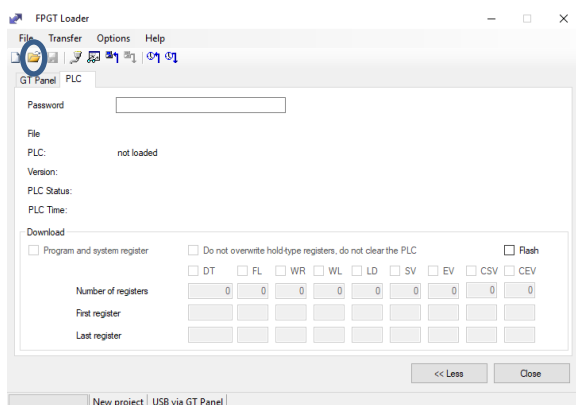
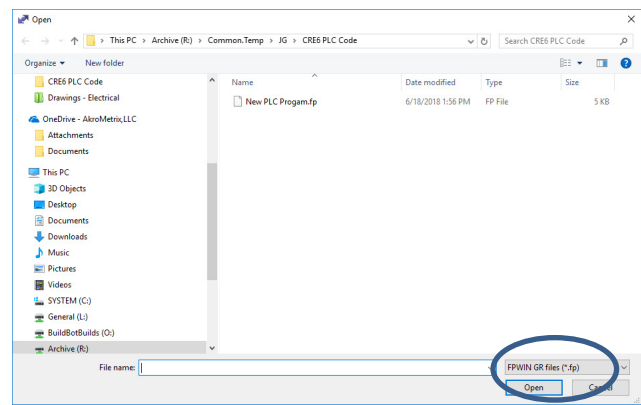

Figure 2
Figure 3
- 3) Click on the communication setting icon . (Figure 2)
- 5) Click the PLC tab. (Figure 2)
- 6) Click the **Browse** button  (Figure 2) and change the file filter (Figure 3) to 'FPWIN GR files(*.fp)' to locate the new PLC code.